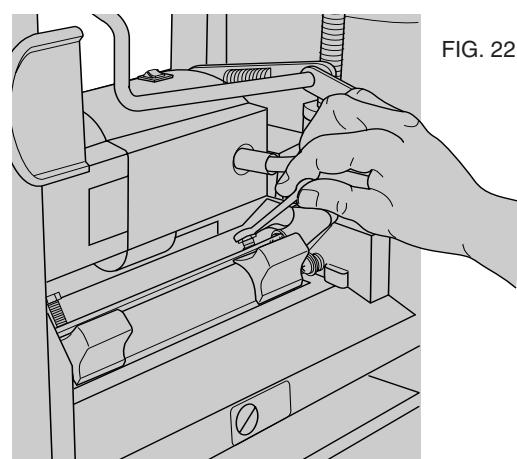

FIG. 22
- 4) Firmly tighten the the two end bolts, using the open-ended wrench provided, as shown in Figure 22.